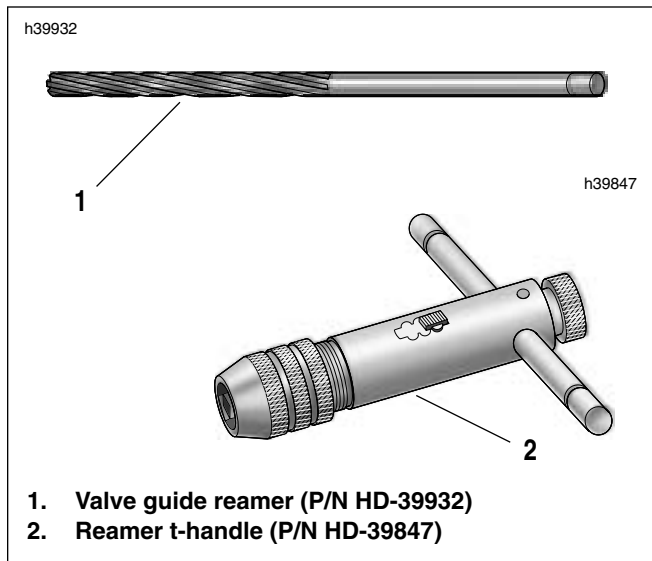

Figure 3-17. Valve Guide Reamer and T-Handle
5. See Figure 3-17. Obtain the VALVE GUIDE REAMER (HD-39932), REAMER T-HANDLE (HD-39847) and REAMER LUBRICANT (HD-39964). Proceed as follows: